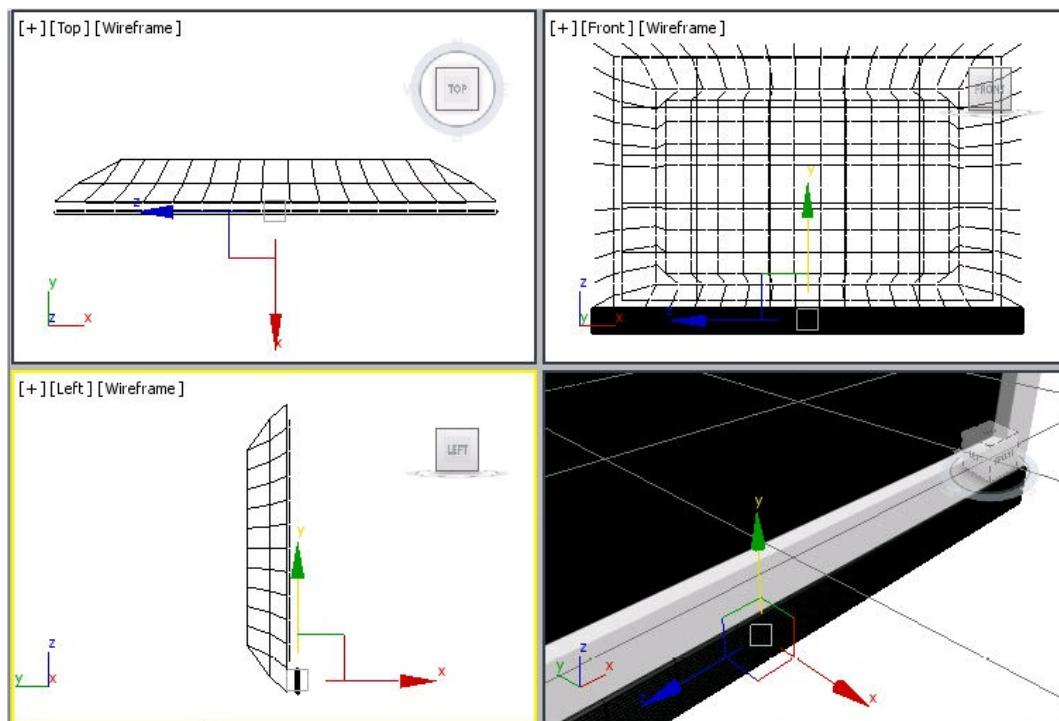

Figure 8-137 Alignment of the speaker with the monitor in viewports
6. Align *speaker* in viewports with *monitor*, as shown in Figure 8-137.